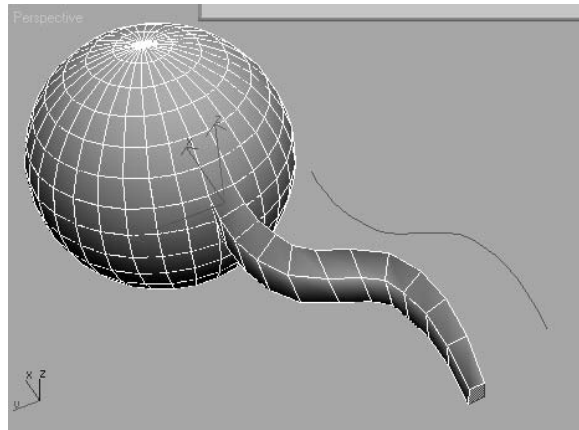

Figure 4.41
5. Start by adding more segments; 15 to 20 should give you a good looking extrusion. The extrusion in Figure 4.41 is the result of 11 Segments,  $-0.5$  Taper Amount, and 2.0 Taper Curve.